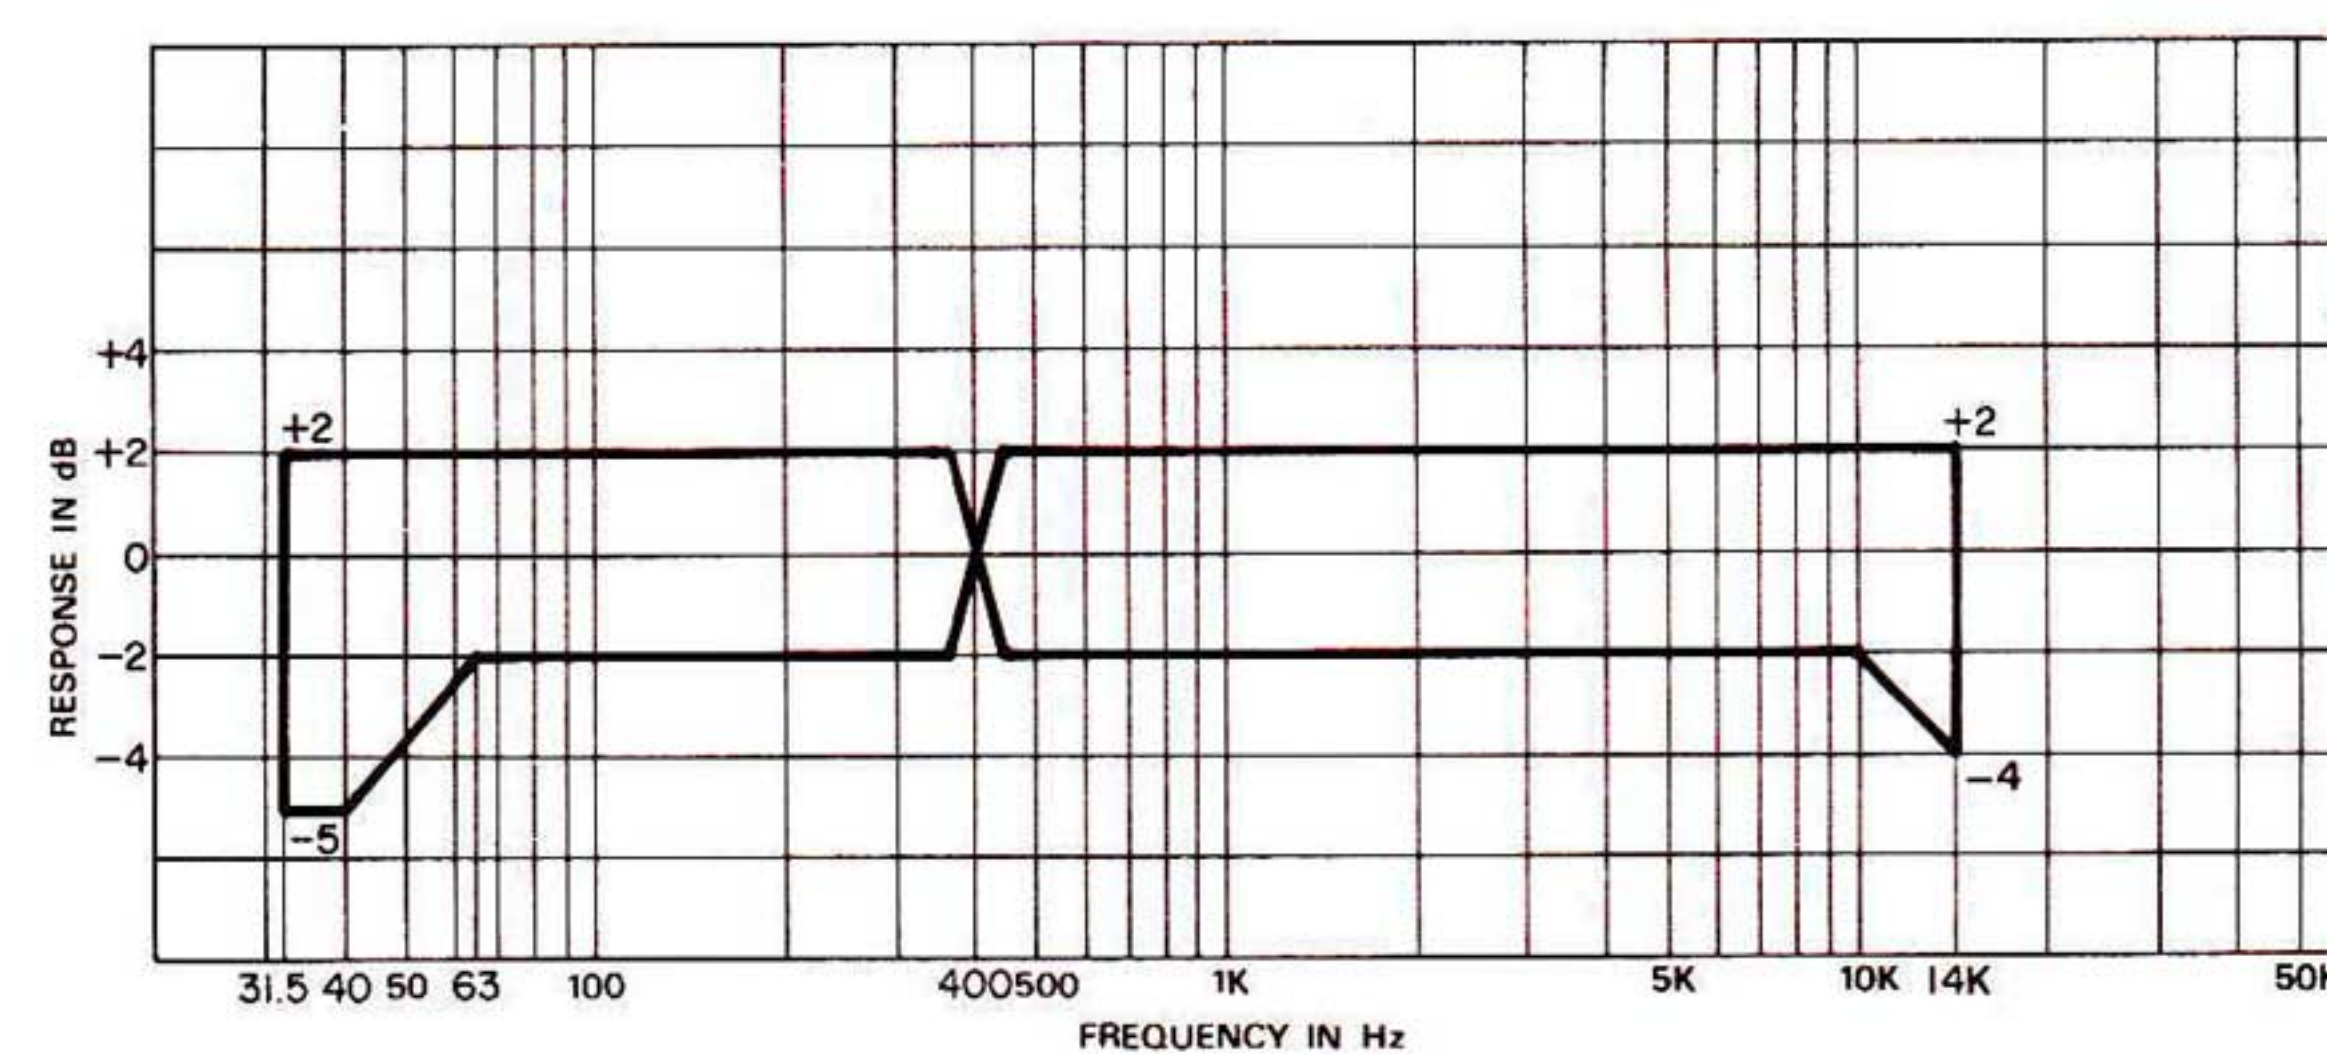

Fig. 6-13 Overall Frequency Response Limits for BIAS/EQ CrO₂
13. Check that the output levels comply with the limits given in Fig. 6-13.
15. Again record and play the desired frequencies and compare the output levels to Fig. 6-13.